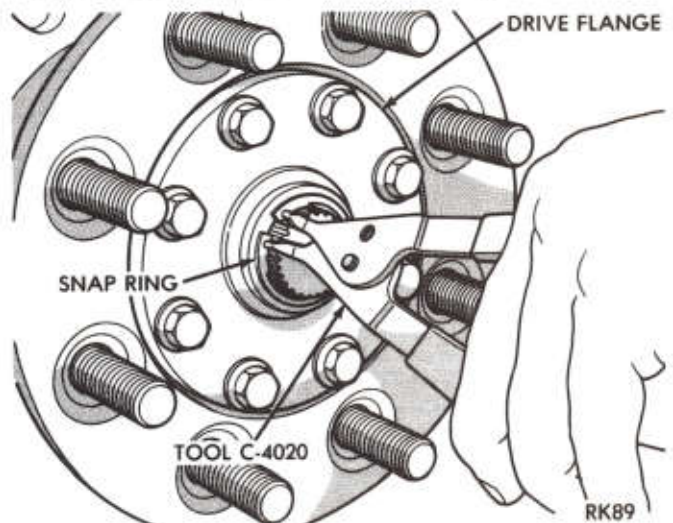
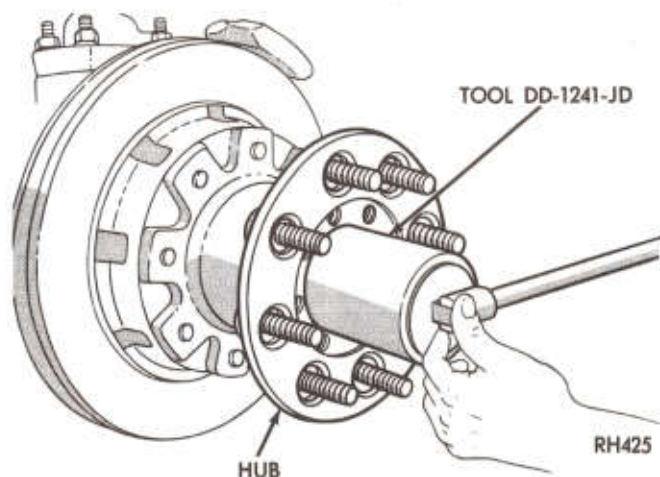

Fig. 4—Removing and Installing Snap Ring
Fig. 5—Removing or Installing Outer Locknut
(6) Carefully separate caliper from adapter. Hang caliper out of the way. **Do not allow caliper to hang or be supported by hydraulic brake hose.** Inner brake shoe will remain on adapter.
(7) Remove hub cap. Using Tool C-4020 remove snap ring (Fig. 4).
(8) Remove flange nuts and lockwashers. Remove drive flange and discard gasket.
(9) Straighten tang on lockring and using Tool DD-1241-JD (Fig. 5), remove outer locknut, lockring, inner locknut and outer bearing. Carefully slide hub and rotor assembly from spindle.